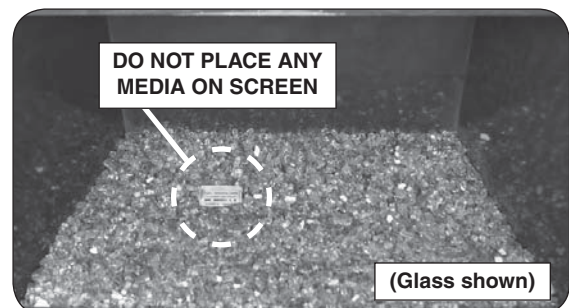

Fig. 28-4 Install media - **glass only**
5. Pour the glass media (glass/gems) evenly into the burner area (see Fig. 28-4).